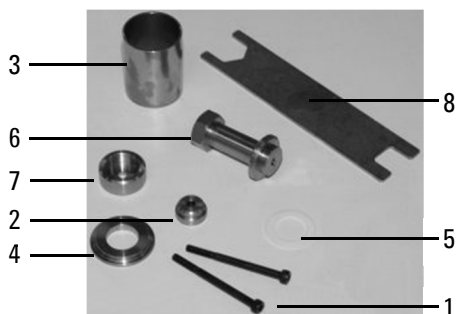

Figure 25. Zeeman electrode removal/replacement kit
- 3 Assemble the insertion tool components as shown in Figure 25.